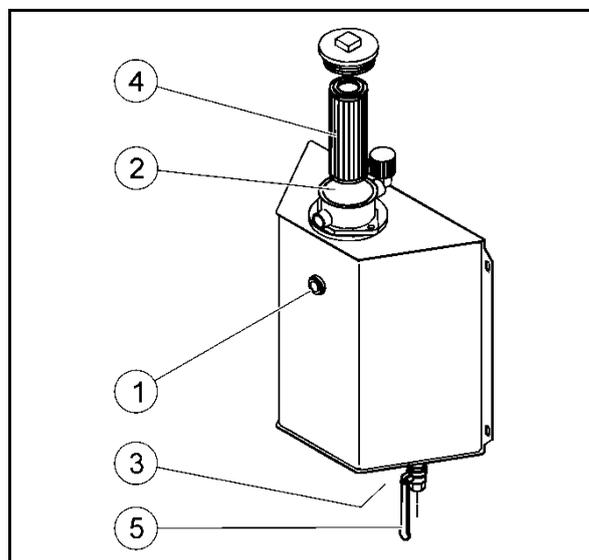

Fig. 92
Ensure that the stop valve (5) is open before each start-up. Fig. 92 shows the open stop valve (5).